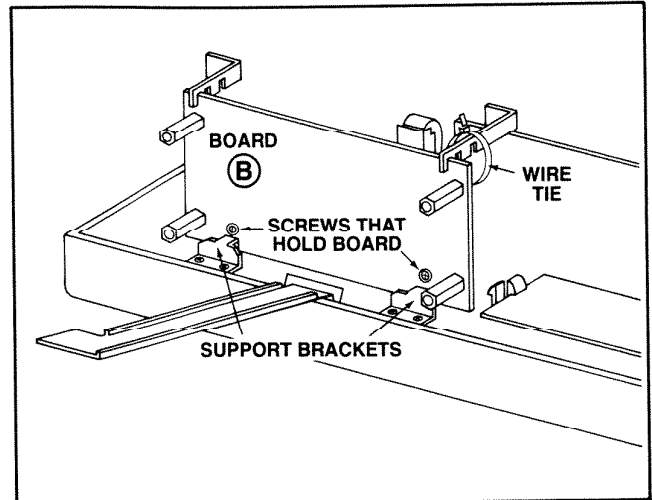

FIGURE 6
2. Locate Board (B) (already installed) in lower left hand side of unit. See Figure 6. This board will need to be temporarily removed and later relocated. To remove Board (B) proceed as follows:
- (a) Cut wire tie that holds Board (B) in place during shipment and discard. See Figure 6.
- (b) Remove screws that hold Board (B) to support brackets. See Figure 6.
- (c) Remove screws that hold support brackets to radio-intercom and set brackets aside—they will need to be reinstalled later. See Figure 6.